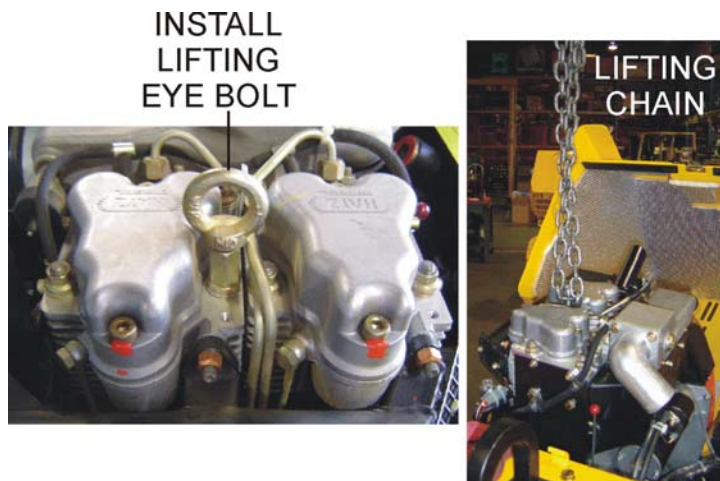

Figure 12. Lifting Eye/Lifting Chain
13. Insert a lifting eye or hook (Figure 12) into the engine body.
14. Attach a chain (Figure 12) or strap to the lifting eye or hook on the engine.